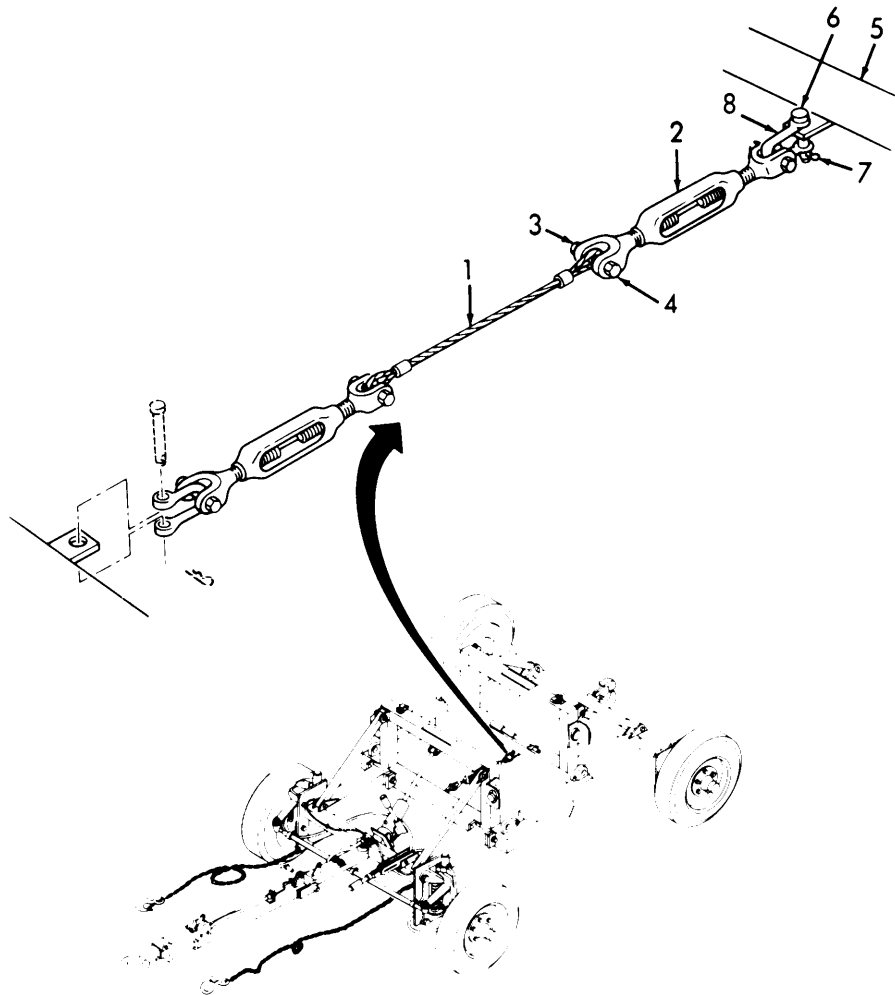

Figure 3-12. Cable Assembly, Installation.
- (1) Attach cable assembly (1, Figure 3-12) to turnbuckle assembly (2) with nut (3) and bolt (4).
- (2) Attach other end of cable assembly (1) to transporter (5) by installing pin (6) and cotter pin (7) through chain shackle assembly (8).